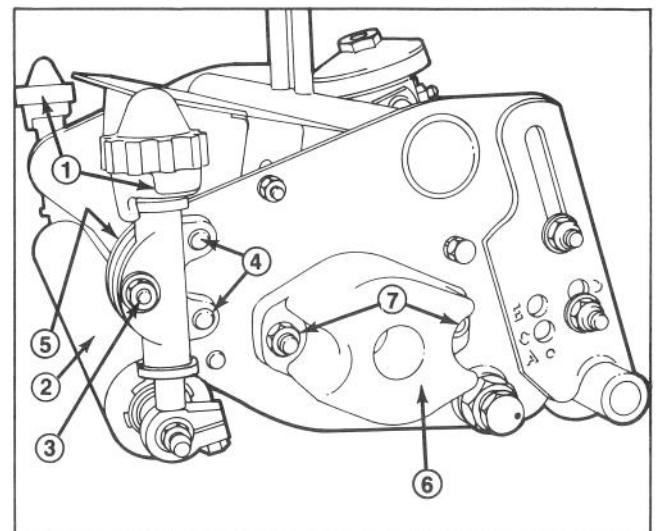
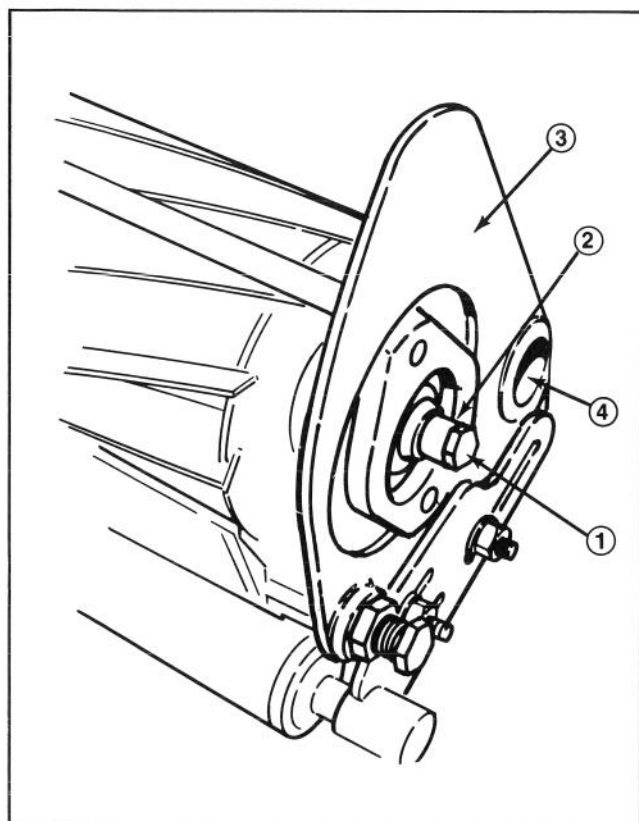

Figure 3
Figure 4
2. Remove the carriage bolts, flat head machine screws and capscrews securing the two front height-of-cut brackets and remove brackets and front roller (Fig. 3). Discard all parts except the roller.
3. Disassemble two locknuts and remove the left side counterbalance (Fig. 3) and remove the backlap screw (Fig. 4). Discard all parts.
5. On the left side, measure the reel shaft extension diameter (Fig. 4). The diameter, over the length of the shaft, must be between .621" to .626" to allow the clutch adapter to fit over the extension. If the shaft diameter exceeds .626", reduce it by hand rotating the shaft and applying a file or emery cloth. Ensure the internal shaft threads are free of rust and debris.
- C. Remove paint and flash from inside the reel frame tube (Fig. 4). Insert the mounting block into the reel frame tube and tighten socket head capscrew enough to hold the assembly in the tube.